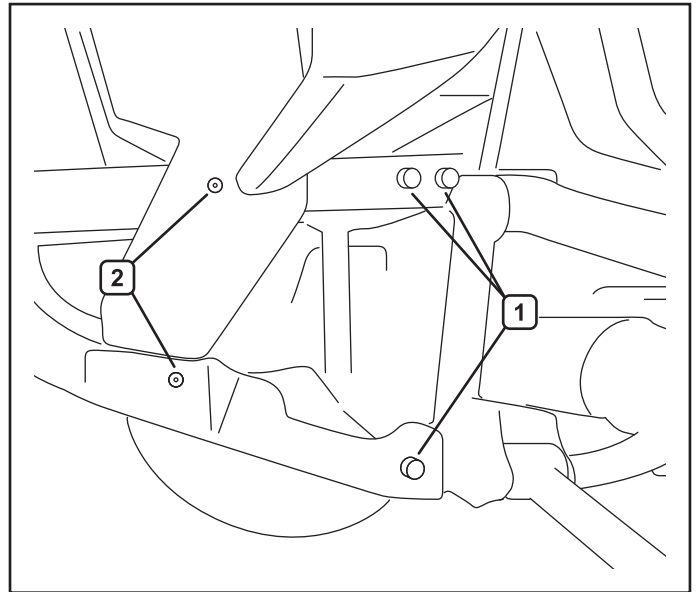

Figure 1.
1. Detach the front bumper by removing six bolts (1) and depending on your model either two plastic clips (2) on the inside or four bolts (2) on the outside. See figure 1.